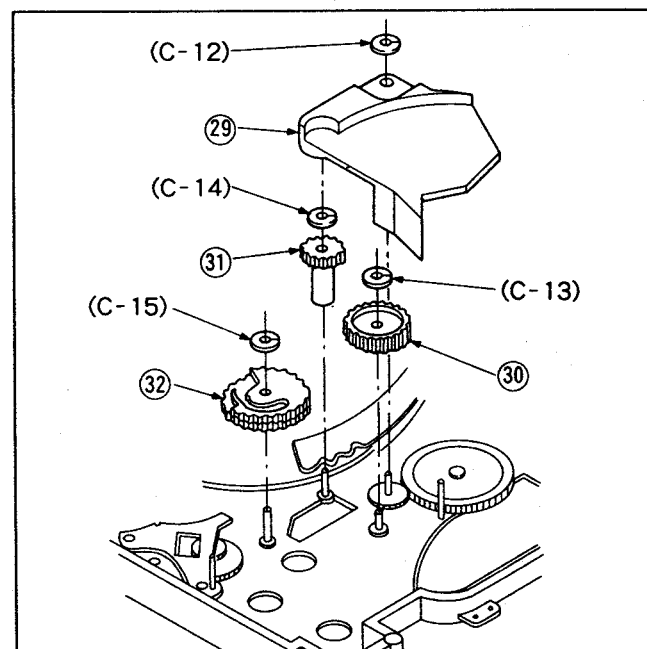
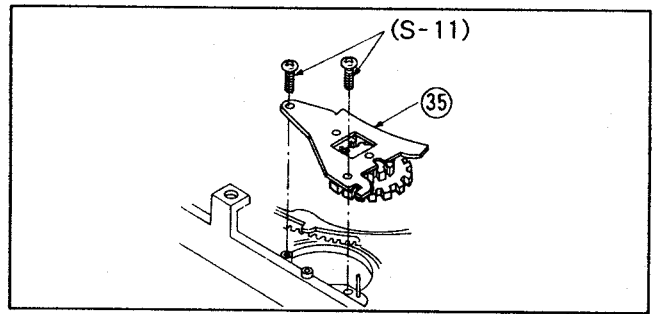
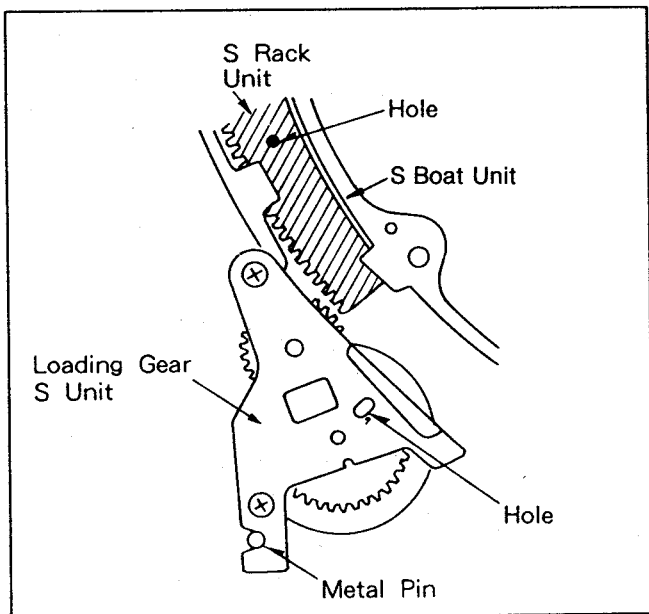
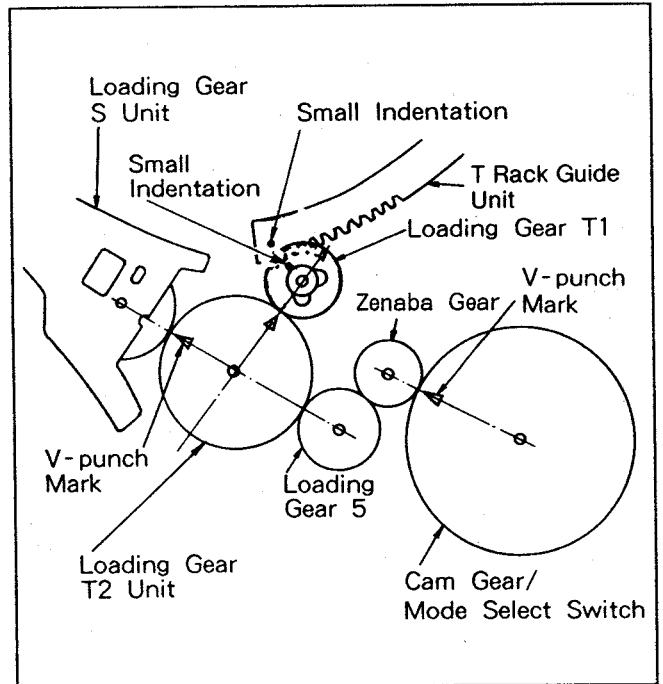

Fig. M13
Fig. M17
Fig. A3
Fig. A4
- 31) Remove band guide. See fig. M13
- 39) Remove loading gear S assembly. See Fig. M17.
- 7) Reinstall the loading gear S assembly. See Fig.M17. See Fig. A3 for alignment procedure.
- 10) Check loading gear S assembly alignment as shown in Fig. A3. reinstall T2 loading gear. See Fig.M13. See Fig. A4 for alignment procedure.
- 11) Reinstall T1 loading gear aligning the small indentation on the T1 gear with the timing mark on the T rack guide unit. See Fig. A4.